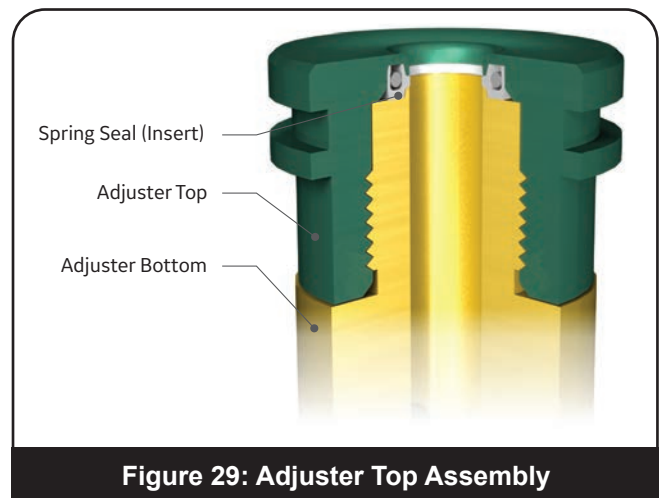

Figure 29: Adjuster Top Assembly
- ix. Inspect Adjuster Top to make sure that Spring Seal (Adjuster Top) did not flare out during installation and that the Spring Seal (Adjuster Top) is oriented as shown in Figure 29.